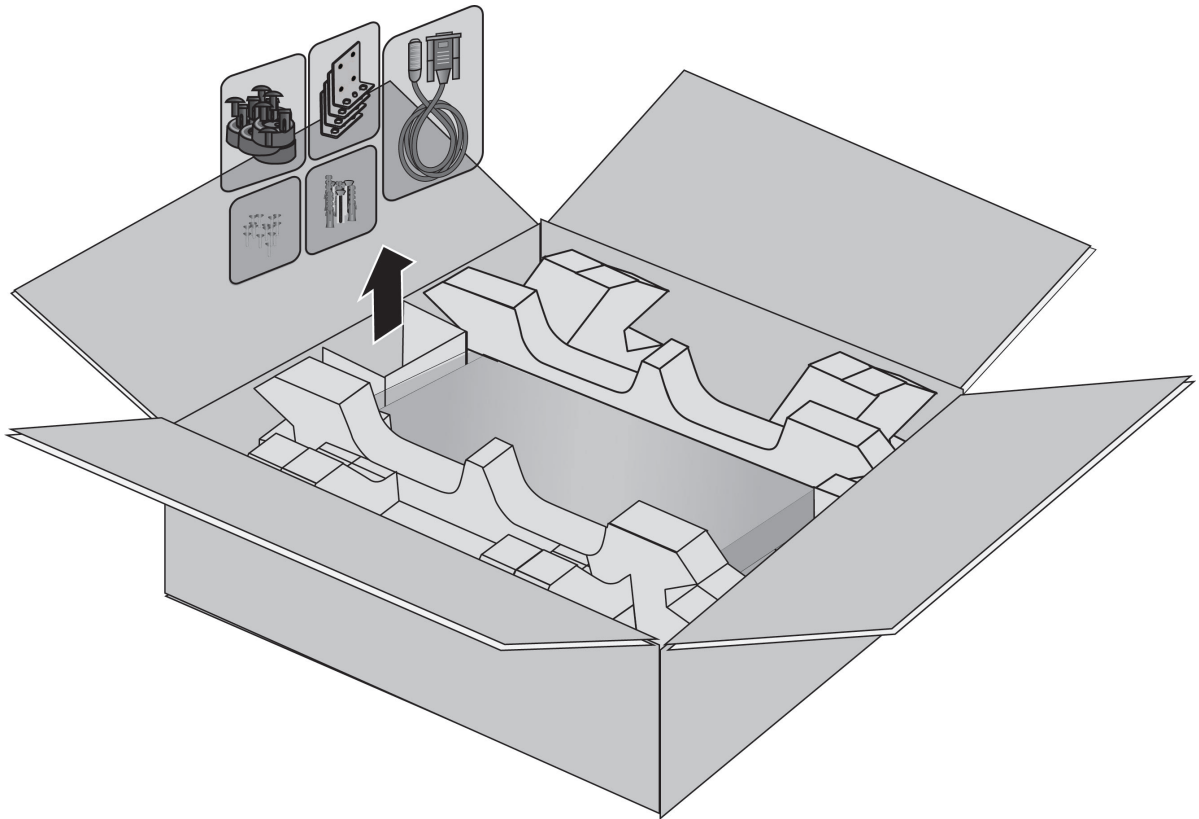

Figure 29. Removing Accessories
1. Remove the accessories and documents from the accessory box partition. Refer to Figure 29.